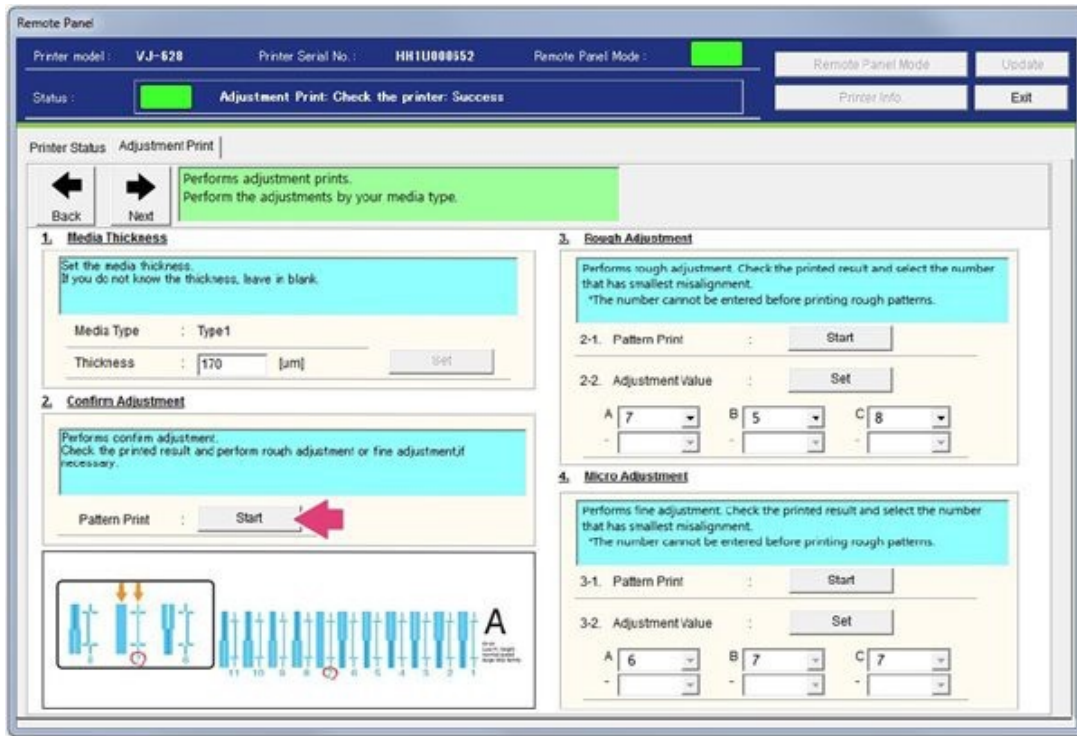

Figure 90
77. Return to the Confirm Adjustment section and select **Start**. See Figure 90.